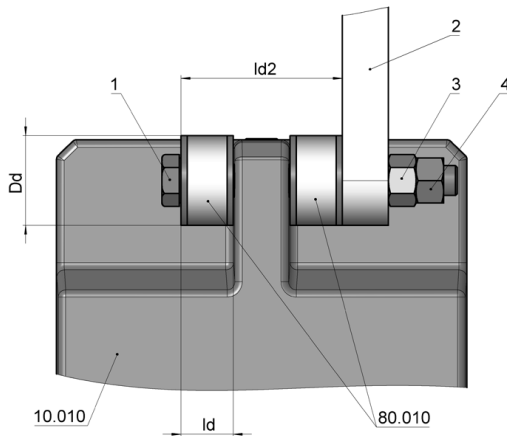

Fig. 2-1 Installation of the rubber buffers
The Fig. 2-1 and the following working instructions show just one example. Dimension Id2 must be strictly observed when tightening the rubber buffer.
2. Install torque arm (2) and the two rubber buffers (80.010) on the F gear unit as shown in Fig. 2-1.
3. Tighten hexagonal nut (3) until dimension Id2 (see Tab. 2-1:) is reached.
4. Secure hexagonal nut (3) using a lock nut (4).